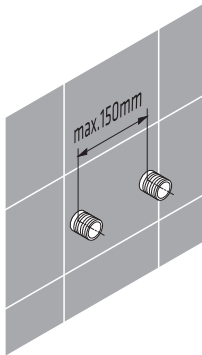

Fig.1
- Hot and cold water connections should be at an approximate distance as the specified (Fig.1);